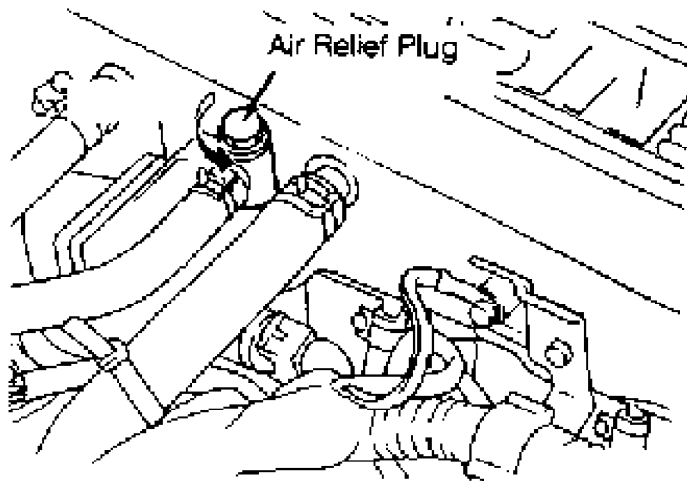

Fig. 3: Locating Air Relief Plug (M30)
2) Depress temperature up (L) switch 3 times. Depress defroster switch twice. Display area should indicate 43. To ensure heater valve opens wide, wait 10 seconds, and then turn ignition switch to OFF position.
3) On all models, remove radiator cap and open drain plug at bottom of radiator. Remove drain plugs on both sides of cylinder block. Close radiator drain plug, and tighten drain plugs to 25-32 ft. lbs. (34-44 N.m). Open air relief plug. See Fig. 3.